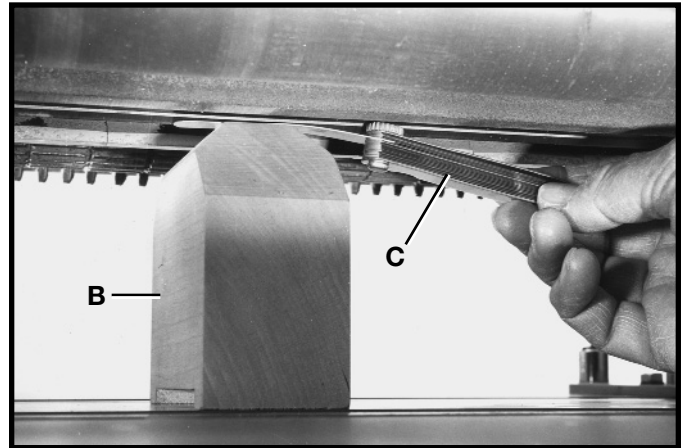
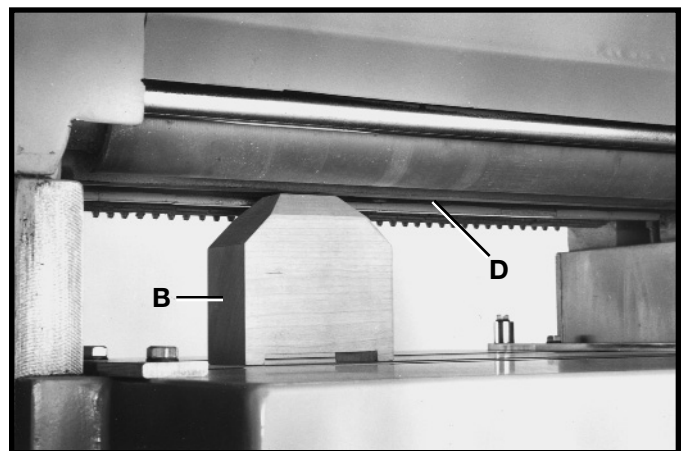
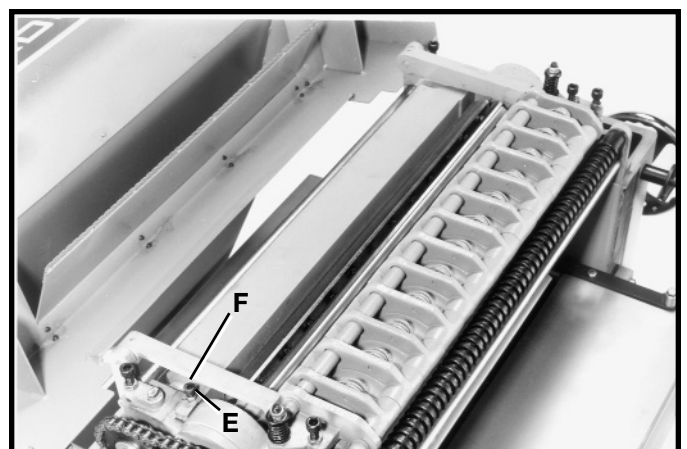

Fig. 40
Fig. 41
Fig. 42
3. Place gage block (B) Fig. 40, on the table surface and directly under the cutterhead as shown. Using a .010" feeler gage (C) Fig. 40, placed on top of the gage block, raise the table until cutterhead knife (D) Fig. 41 touches the feeler gage when the knife is at its lowest point. **IMPORTANT: DO NOT MOVE THE TABLE ANY FURTHER UNTIL THE ADJUSTMENT HAS BEEN COMPLETED.**
4. Move gage block (B) Fig. 41, under pressure bar (D) as shown. The bottom of pressure bar (D) Fig. 41, should just touch the top of gage block (B). Check the opposite end of the pressure bar in the same manner.
5. If an adjustment to the height of the pressure bar is necessary, loosen lock nut (E) Fig. 42, and turn adjustment screw (F) until the bottom of pressure bar (D) Fig. 41, just touches top of gage block (B). Repeat the adjustment at the other end of the pressure bar in the same manner.